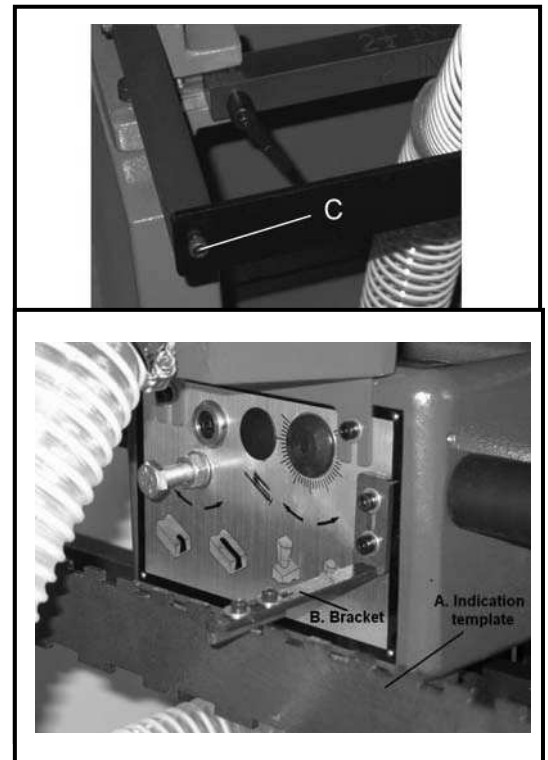

Figure 15
Because the tracer pin is not easily observed while the machine is in operation, the indication template (A, Figure 15) provides the operator with a visual record of the progress of the "hidden" tracer pin. The bracket (B, Figure 15) slides in and out of the notches on the indication template, echoing the tracer pin as it slides in and out of the notches on the template bar below.
2. Remove the socket head cap screw (C, Figure 15) at each end of the indication template, with a 5mm hex wrench.
4. Re-insert and tighten the socket head cap screws (C, Figure 15).